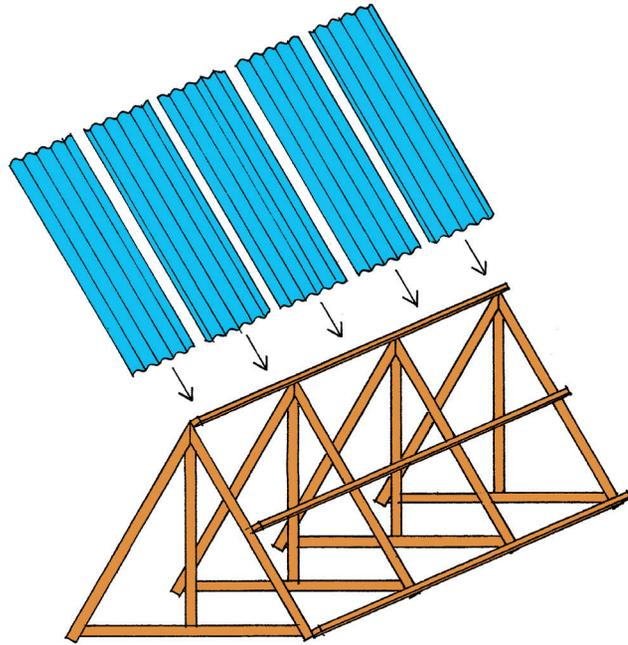

Figure 8
4. What part of the roof trusses shown here will prevent them from tearing apart when the roof sheets are loaded onto them? Show your partner this part on one of the roof trusses on Figure 8.